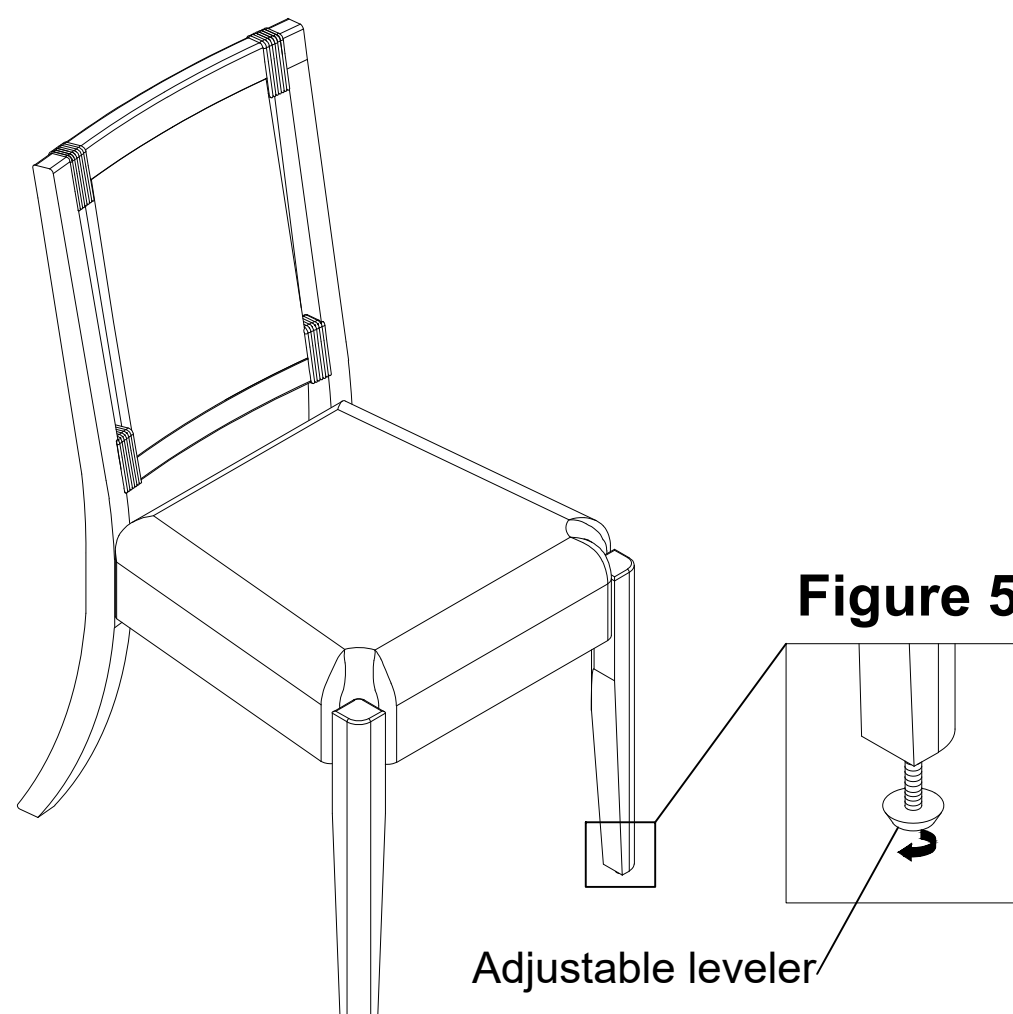

Figure 5
Adjust the levelers on the Front Legs (C) until the furniture is leveled. (See Figure 5)